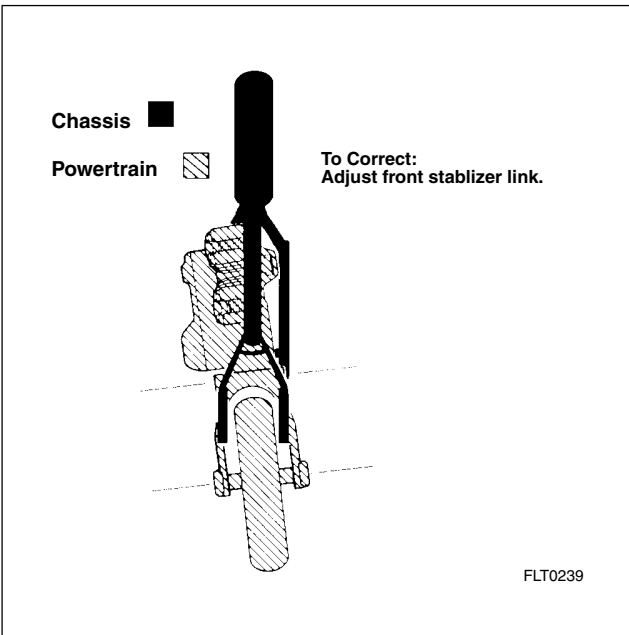

Figure 2-40. Horizontally Misaligned
- f. Loosen jam nuts, and using the center hex, adjust the front stabilizer link as required to obtain equal measurements at all four points (+/- 0.030 inch or 0.76 mm). See Figure 2-40.